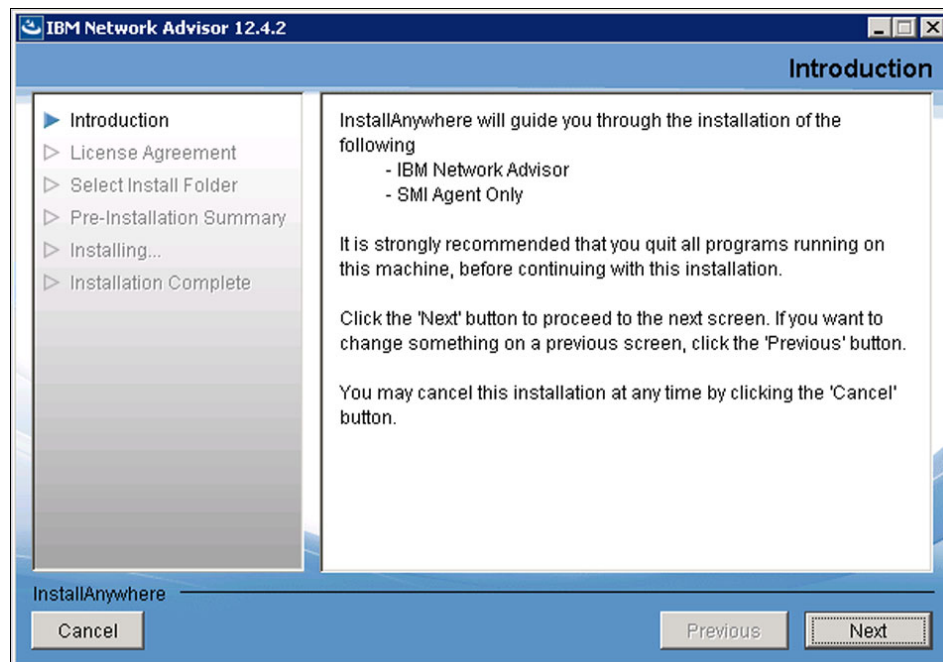

Figure 4-3 Introduction window for installation
2. Figure 4-3 shows the Introduction window for the installation. Click **Next** to proceed or **Cancel** to exit the upgrade.